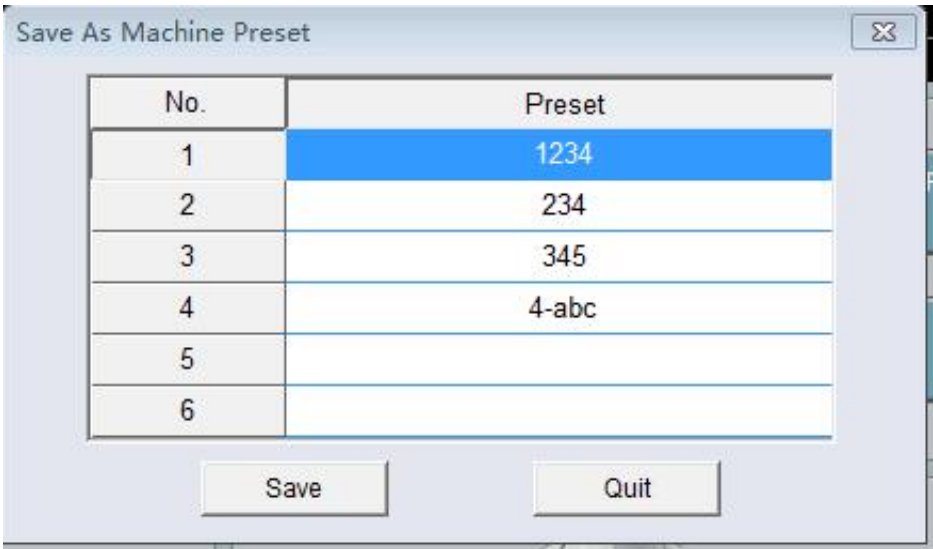

figure 3.4.2
Step2: Click "Save as machine preset scene" item will pop up after the Save As dialog window machine preset scene (Figure 3.4.2).
Step 3: Figure 3.4.2 dialog box, does not show the name of the data indicates that this scene is the factory default data, select the user preset number you want to save the machine location (such as Option 4), and then point below the "save " button, you pop up as shown in Figure 5.5.3," enter the scene name "box. **If you select the number of the existing scene name, it will overwrite the original data! !**